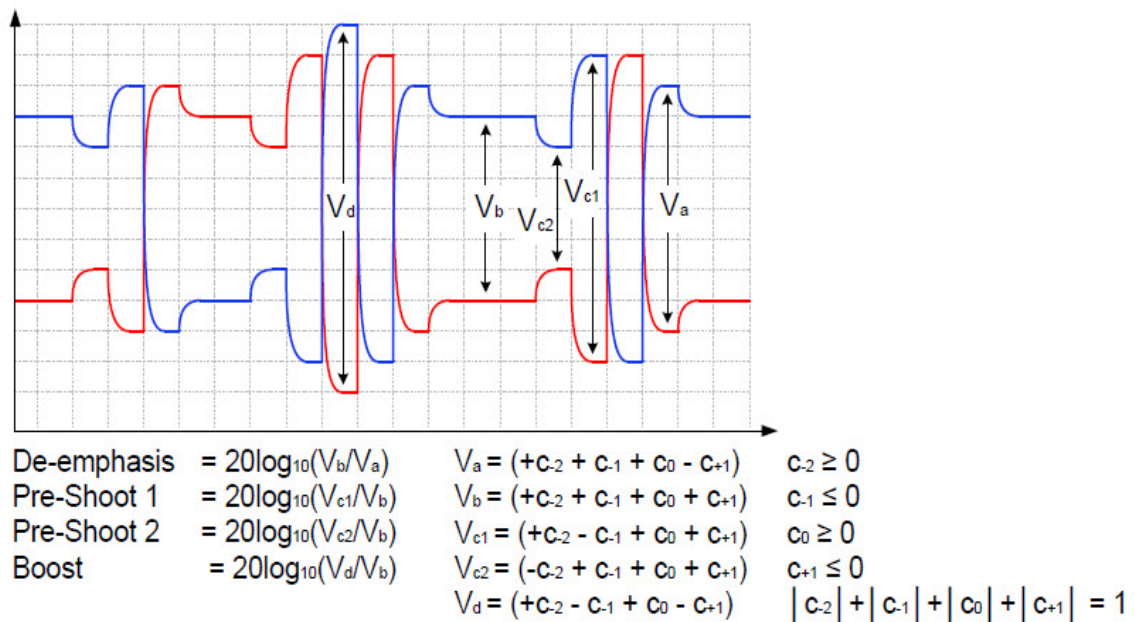

Figure 22 Waveform measurement points for preshoot and de-emphasis
64.0 GT/s PCIe signaling must support the full range of presets given in Table 8-2 (PCIe Base Specification Revision 6.0). Presets are defined in terms of ratios, relating the pre-cursor and post-cursor equalization voltages. The pre-cursor (V_c) is referred to as pre-shoot, while the post-cursor (V_b) is referred to as de-emphasis. This convention permits the specification to retain the existing 2.5 GT/s and 5.0 GT/s definitions for Tx equalization, where only de-emphasis is defined, and it allows preshoot and de-emphasis to be defined such that each is independent of the other. The tolerances in Table 8-1 (PCIe Base Specification Revision 6.0) also apply to 2.5 and 5.0 GT/s de-emphasis. The maximum swing, V_d , is also shown to illustrate that, when both c_{+1} and c_{-1} are nonzero, the swing of V_a does not reach the maximum as defined by V_d . The high frequency nature of PCIe signaling makes measurement of single UI pulse heights impractical. Consequently all amplitude measurements are made with low frequency waveforms as shown in Figure 22.
- 13 Computes their equalization voltages by using Matlab, and then calculates equalization ratios by using the formulae stated in Figure 22 (Figure 8-6 of the spec).